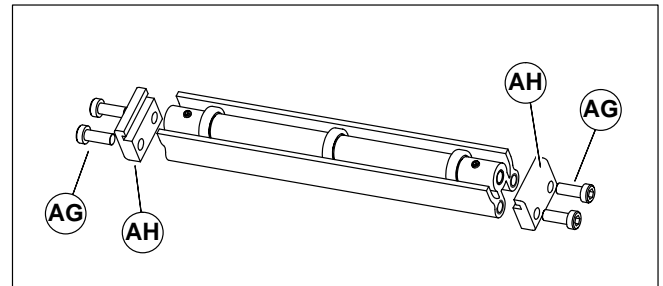

Figure 13
1. Locate return rollers. Exploded view shown in Figure 13.
2. Remove screws (AG of Figure 13) and clips (AH) from roller assembly.